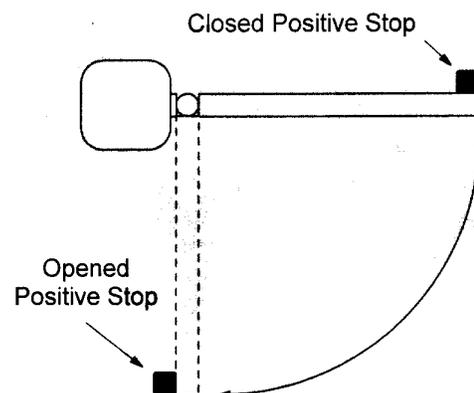

Figure 4. Provide positive stops for the gate leaf
3. Provide positive stops for the gate leaves in the opened and closed positions (see Figure 4).